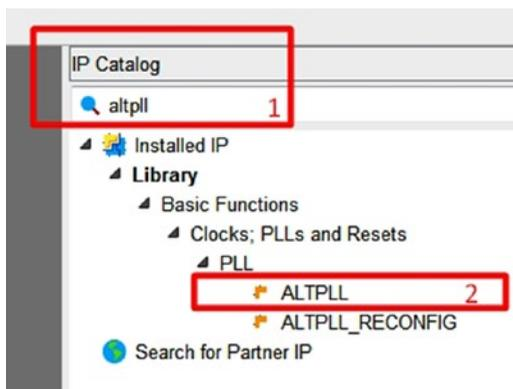

Figure 12-16. IP Catalog—Altera PLL IP
Step 1: In the IP Catalog, search for **altpll**, select the **ALTPLL**, and **double-click** it as shown in Figure 12-16.